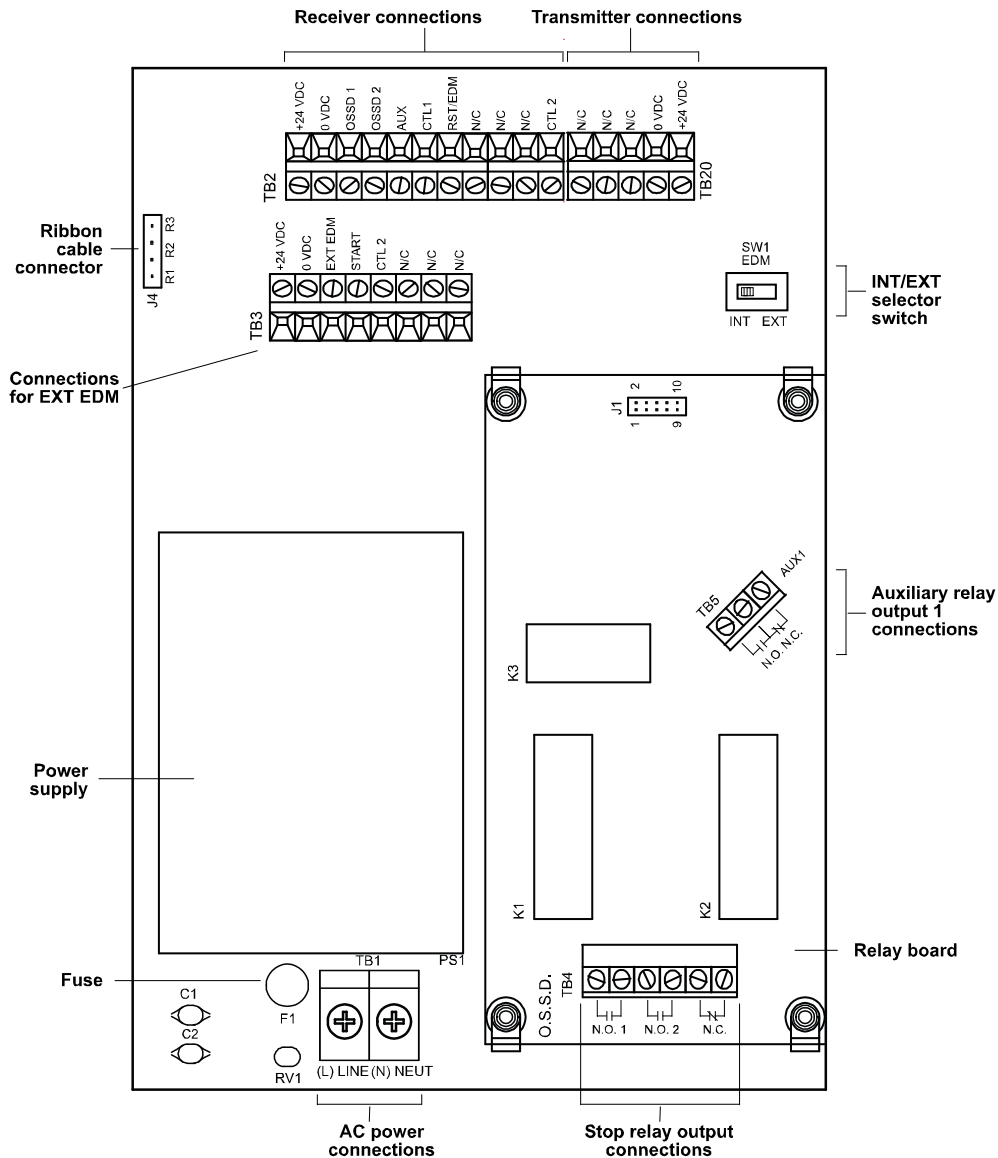

Figure 2-27. Shadow 9 Control Main Board: Location of Important Components
To wire a pair of heads, transmitter and receiver, to the optional Shadow 9 control, perform the following steps, referring to Figure 2-27, page 72, and Figure 1 at the end of the manual for wiring connections:
- Locate terminal blocks TB2 (receiver) and TB20 (transmitter) on the Shadow 9 control main board (see Figure 2-27, page 72).
1. Open the door of the control and locate terminal block TB1 on the Shadow 9 control main board in the lower left corner of the enclosure (see Figure 2-27, page 72). This is the connector for AC power.
5. Connect the black wire to the “L” terminal on TB1, the white (or red) wire to the “N” terminal, as shown in Figure 2-27, page 72, and in Figure 2 at the end of the manual.
6. Connect the green (or green-and-yellow) electric service ground wire to the set screw terminal on the bottom of the enclosure, as shown in Figure 2-27, page 72.